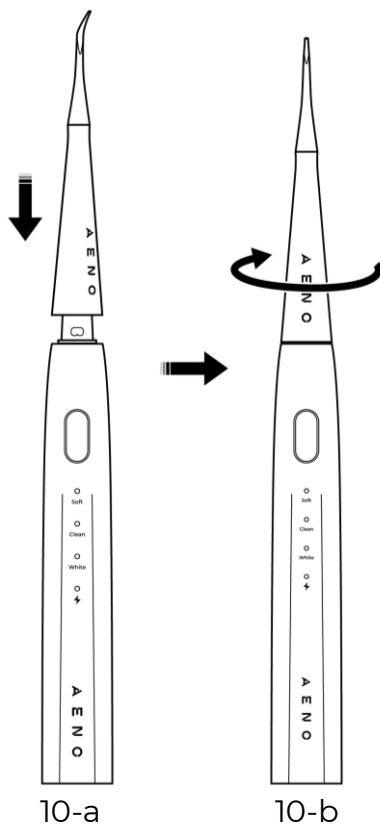
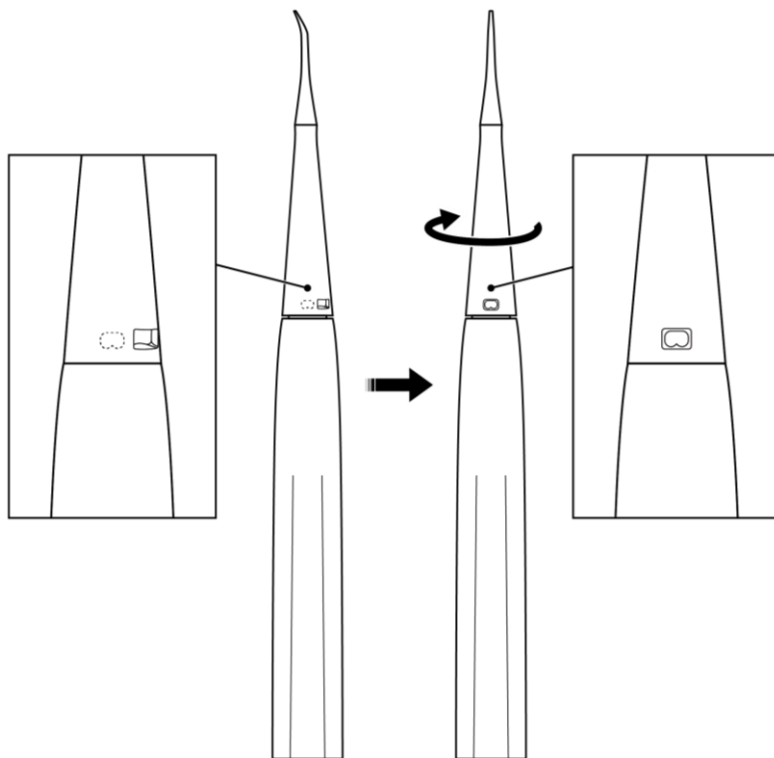

Figure 10 – Installing the Plaque Remover (Front View)
Figure 11 – Installing the Plaque Remover (Back View)
1. Place the plaque remover on the toothbrush handle so that they fit tightly. The metal end of the remover should be pointed in the direction shown in Figure 10-a.
2. Turn the remover clockwise (see Figure 10-b). When properly installed, the tab on the toothbrush handle will slide into the groove on the remover and you will hear a click (see Figure 11).